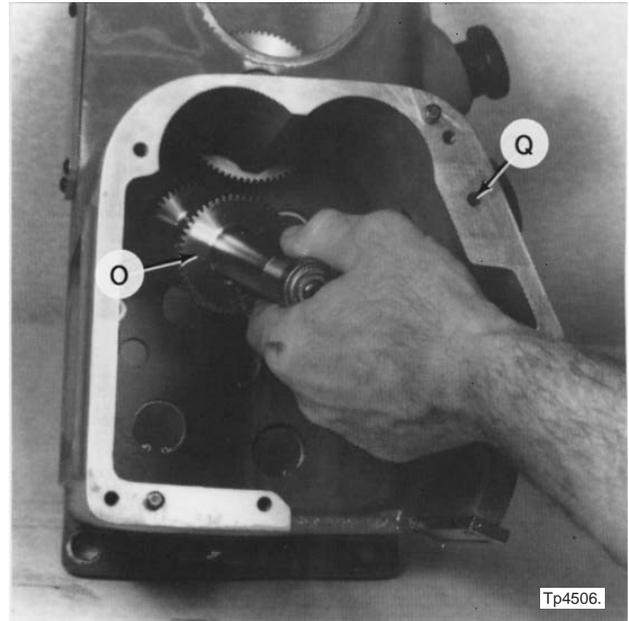

Figure 4.50 - Reverse Shaft Assembly Removal
- a) Remove lock screw "Q", Figure 4.50 .